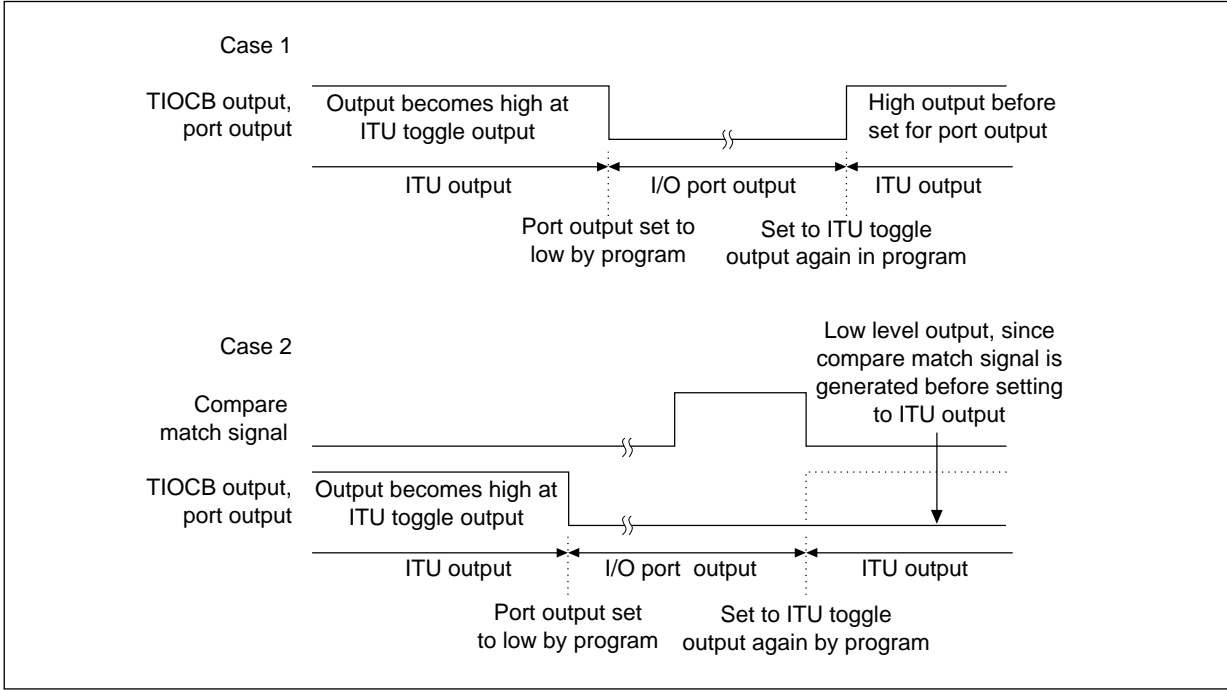

Figure 2.12 ITU Output and Port Output (A)
- When a compare match signal is generated at the point when the port output is to be changed to ITU output, the value changes. (See figure 2.12.)